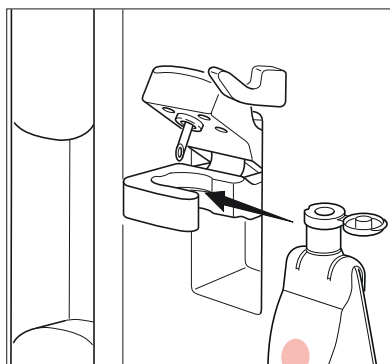

Figure 2
3. Place the SelectBag container into the SelectBag holder ensuring that the SelectBag connector fits the shaped housing of the holder (see “Figure 2” below);